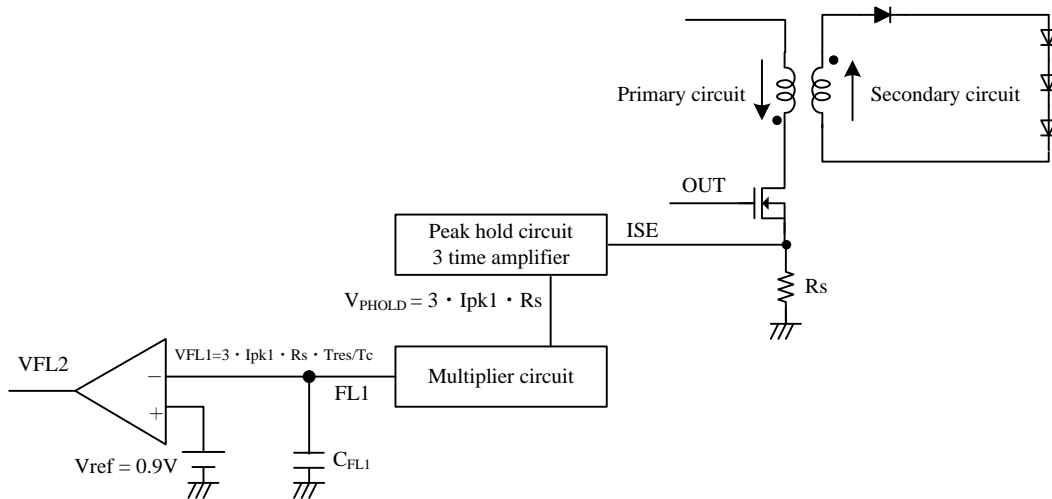

Figure 1.3 Block diagram relating constant current operation
IC operation, how to control LED current (output current) to be a constant value, is explained as below. Figure 1.3 shows block diagram relating constant current operation. As  $V_{ISE}$  is proportional to primary current and sensing resistance  $R_s$ , ISE terminal can monitor primary current.  $V_{PHOLD}$  is the output of peak hold circuit. It outputs the peak value of  $V_{ISE}$  every switching cycle, shown by equation (3).